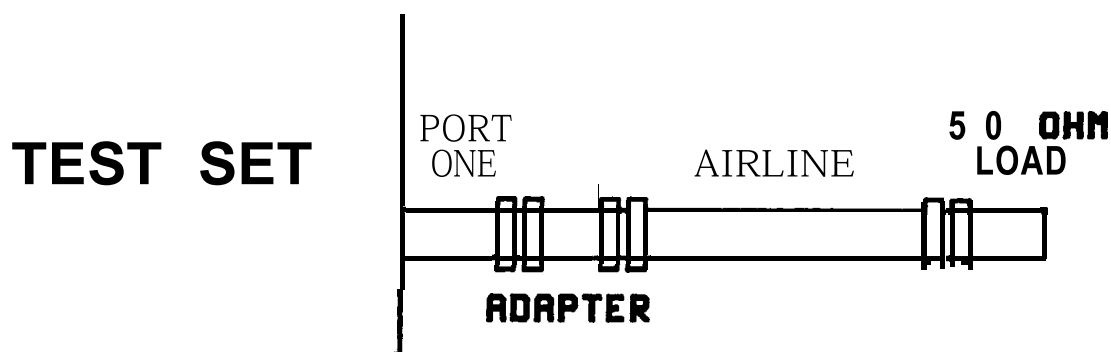

Figure 1. Return Loss Set-up
4. Perform a 2.4 mm one port sliding load **S11** calibration with 32 averaging at port one of your test set, as described in the HP 8510 Operating and Programming manual. Save the calibration. Set up as shown in Figure 1.